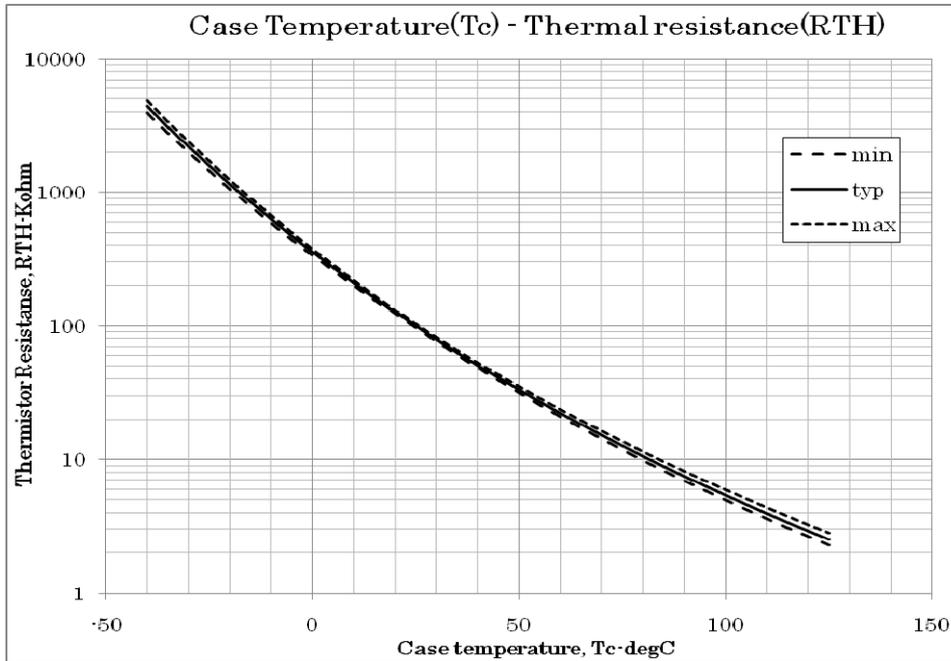
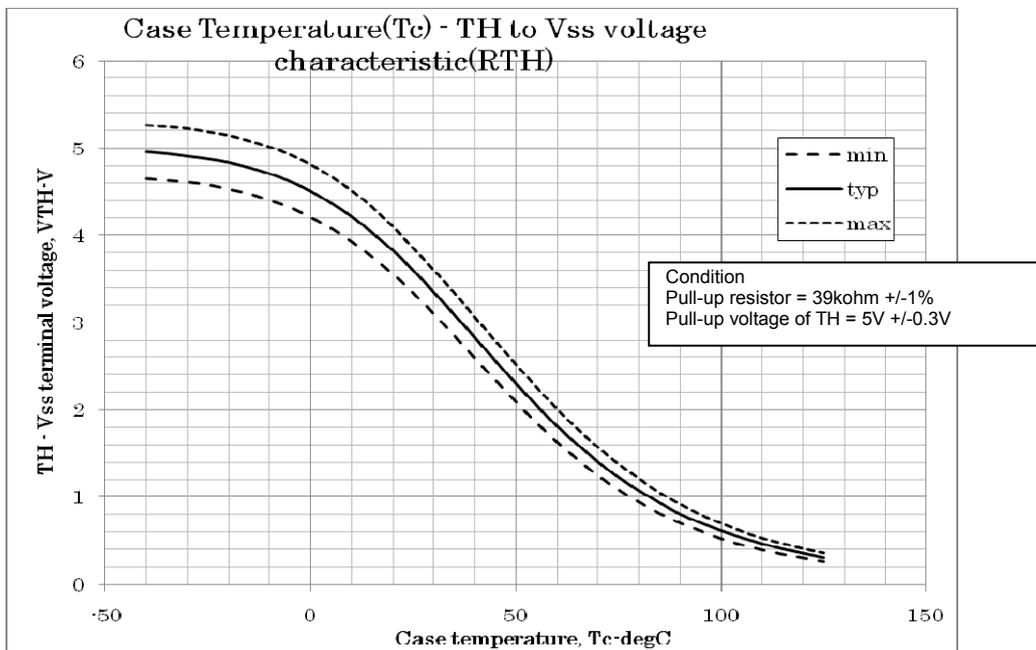

Fig.10 Variation of thermistor resistance with temperature.
Fig.11 Variation of temperature sense voltage with thermistor temperature.
4. Inside the IPM, a thermistor used as the temperature monitor for internal substrate is connected between “TH1” and “TH2”. Generally, one of terminals is connected to VSS, and the other is pulled up to external power supply with pull-up resistor (Rp) externally. The temperature monitor example application is as follows please refer the Fig.10 and Fig.11 below.